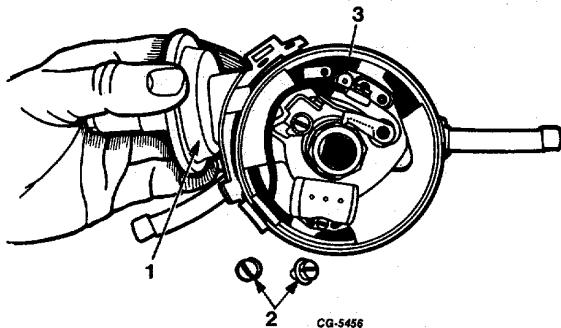

Fig. 9 Removing Vacuum Advance Diaphragm Assembly
- 3. Remove vacuum advance diaphragm mounting screws and remove diaphragm assembly from distributor housing (Figure 9). Remove felt washer from diaphragm rod pin on sensor advance plate (Figure 9).